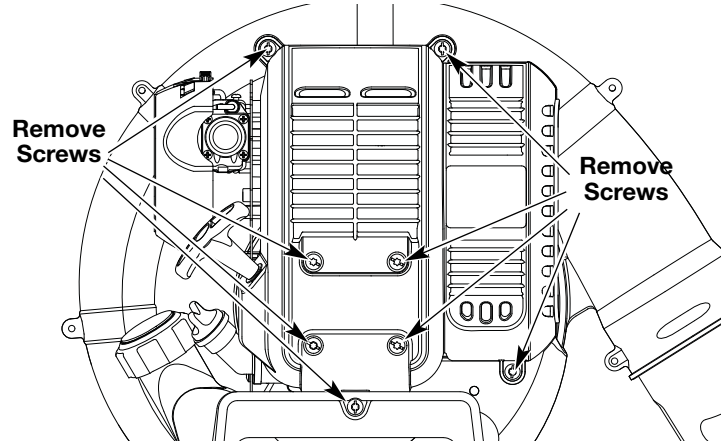

Fig. 30
- Remove the eight (8) screws on the back of the engine cover with a Flat-head or T-25 Torx screwdriver (Fig. 30).
- Remove the engine cover (Fig. 30).
- Stop the engine and allow it to cool. Remove the eight (8) screws on the back of the engine cover with a Flat-head or T-25 Torx screwdriver (Fig. 30).